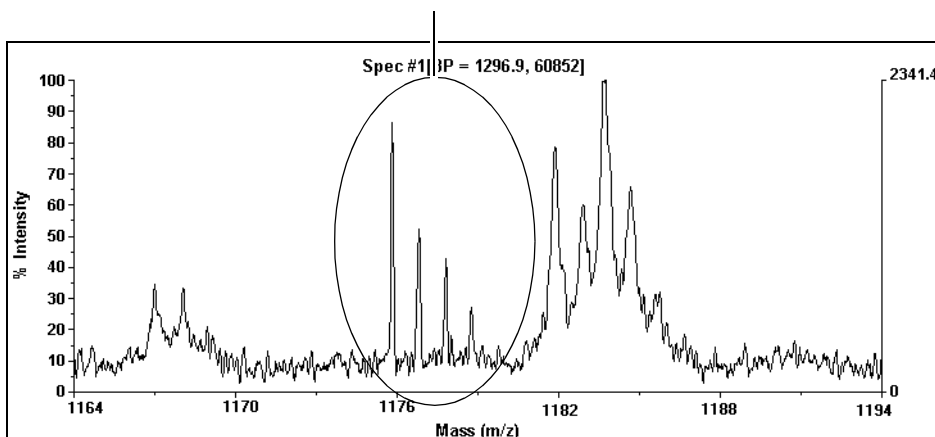

Figure 8-16 Angiotensin I Fragment Ions (Precursor Ion Selector Off)
3. Observe the 1,180 to 1,190 Da mass region. Note the additional peaks that appear below 1,185 Da when the Precursor Ion Selector is turned off (Figure 8-16).